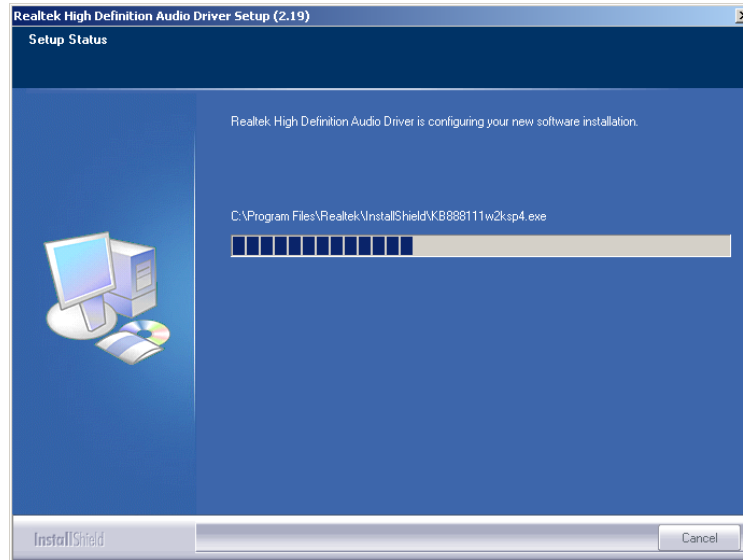

Figure 7-28: Audio Driver Software Configuration
Step 8: InstallShield starts to install the new software as shown in **Figure 7-28**.